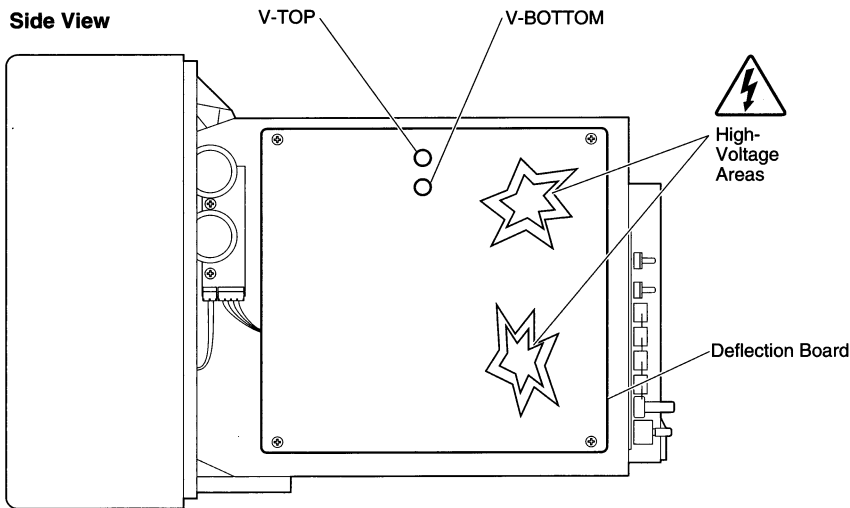

Figure 10 V-TOP and V-BOTTOM Controls
11. FIGURE 10. If the horizontal lines at the top of the test pattern are out of adjustment, turn the V-TOP (RV518) control until the color-shadowed lines blend to solid white lines.
12. FIGURE 10. If the horizontal lines at the bottom of the monitor are out of adjustment, turn the V-BOTTOM (RV517) control until the color-shadowed lines blend to solid white lines.
▲ Warning When performing the Geometric Distortion Adjustment, avoid the high-voltage areas on the solder side of deflection board "D" outlined in FIGURE 10.